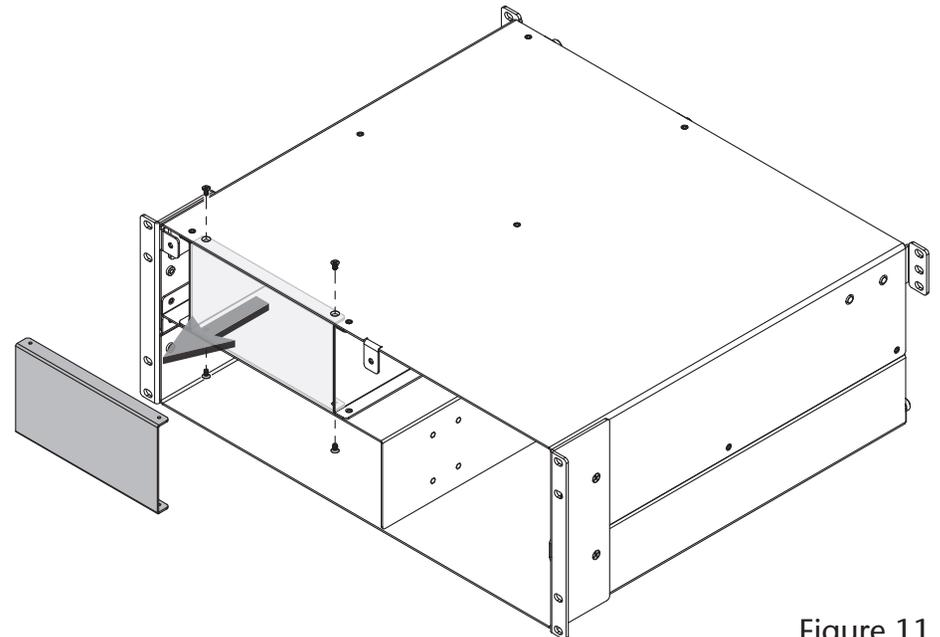

Figure 11
6. Using a Phillips screwdriver, remove and set aside the four screws securing the blank plate inside the enclosure, and then remove the blank plate (Figure 11).